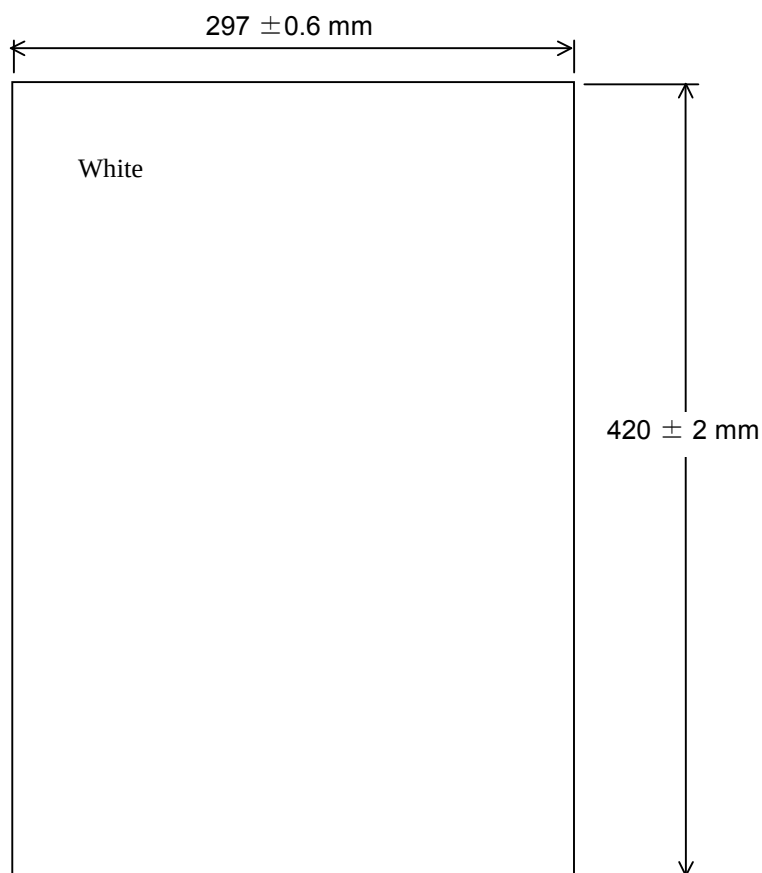

Figure 6.1.3 Magnification / Offset Adjustment Test Sheet
Before this adjustment, obtain the Test sheet described in the Figure 6.1.3. This is an A3 size sheet of paper.
- (2) Set a white A3 size sheet (Figure 6.1.3) on the ADF paper chute in Portrait orientation, and adjust the sheet guide to the width of the sheet.
- Before this adjustment, obtain the Test sheet described in the figure 6.1.3. This is an A3 size sheet of paper.
- Set a white A3 size sheet (Figure 6.1.3) on the ADF paper chute in Portrait orientation, and adjust the sheet guide to the width of the sheet.